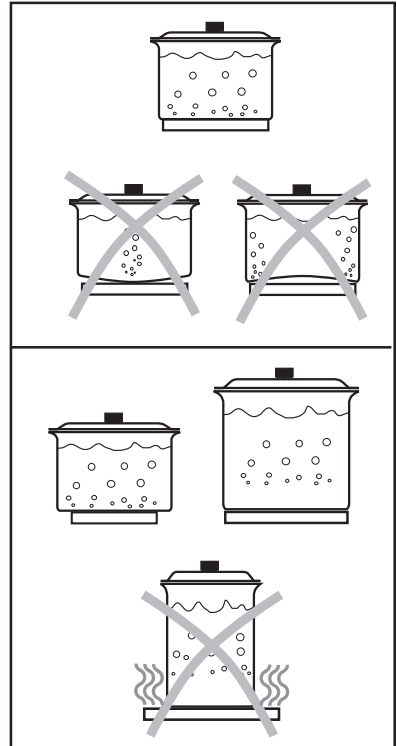

Fig. 3
- For cooking on the electric hotplates it is advisable to use triple-bottom pots of the same width as the cooking zone, or slightly larger (Fig. 3).